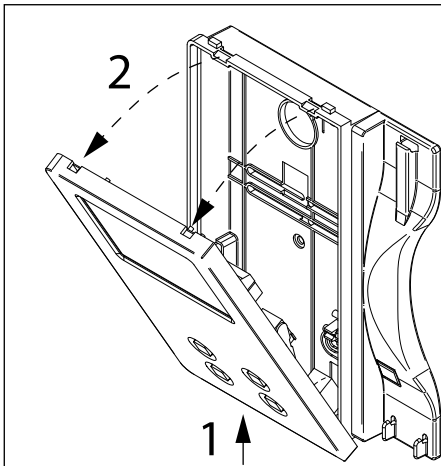

Fig. 1 -
1. In order to install the videophone, it is necessary to remove the cover, which contains all the electronics, from the base: firstly disconnect the handset from the videophone (by removing its plug from the videophone), then press lightly the bottom part of the videophone and simultaneously pulling outwards the upper part as shown in **Fig. 1**.